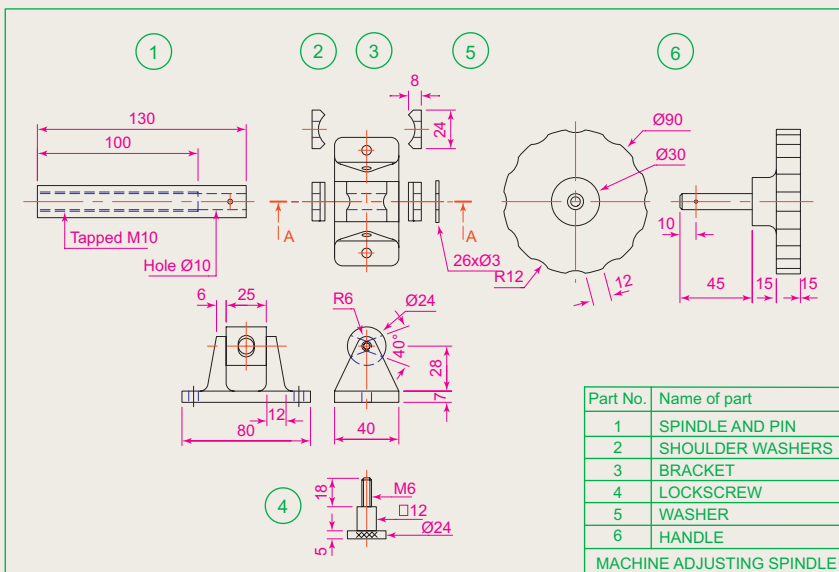

Fig. 11.18 Exercise 2
- Construct a sheet set similar to that in the answer to Exercise 1 from the exploded orthographic drawing of a **Machine adjusting spindle** given in Fig. 11.18.